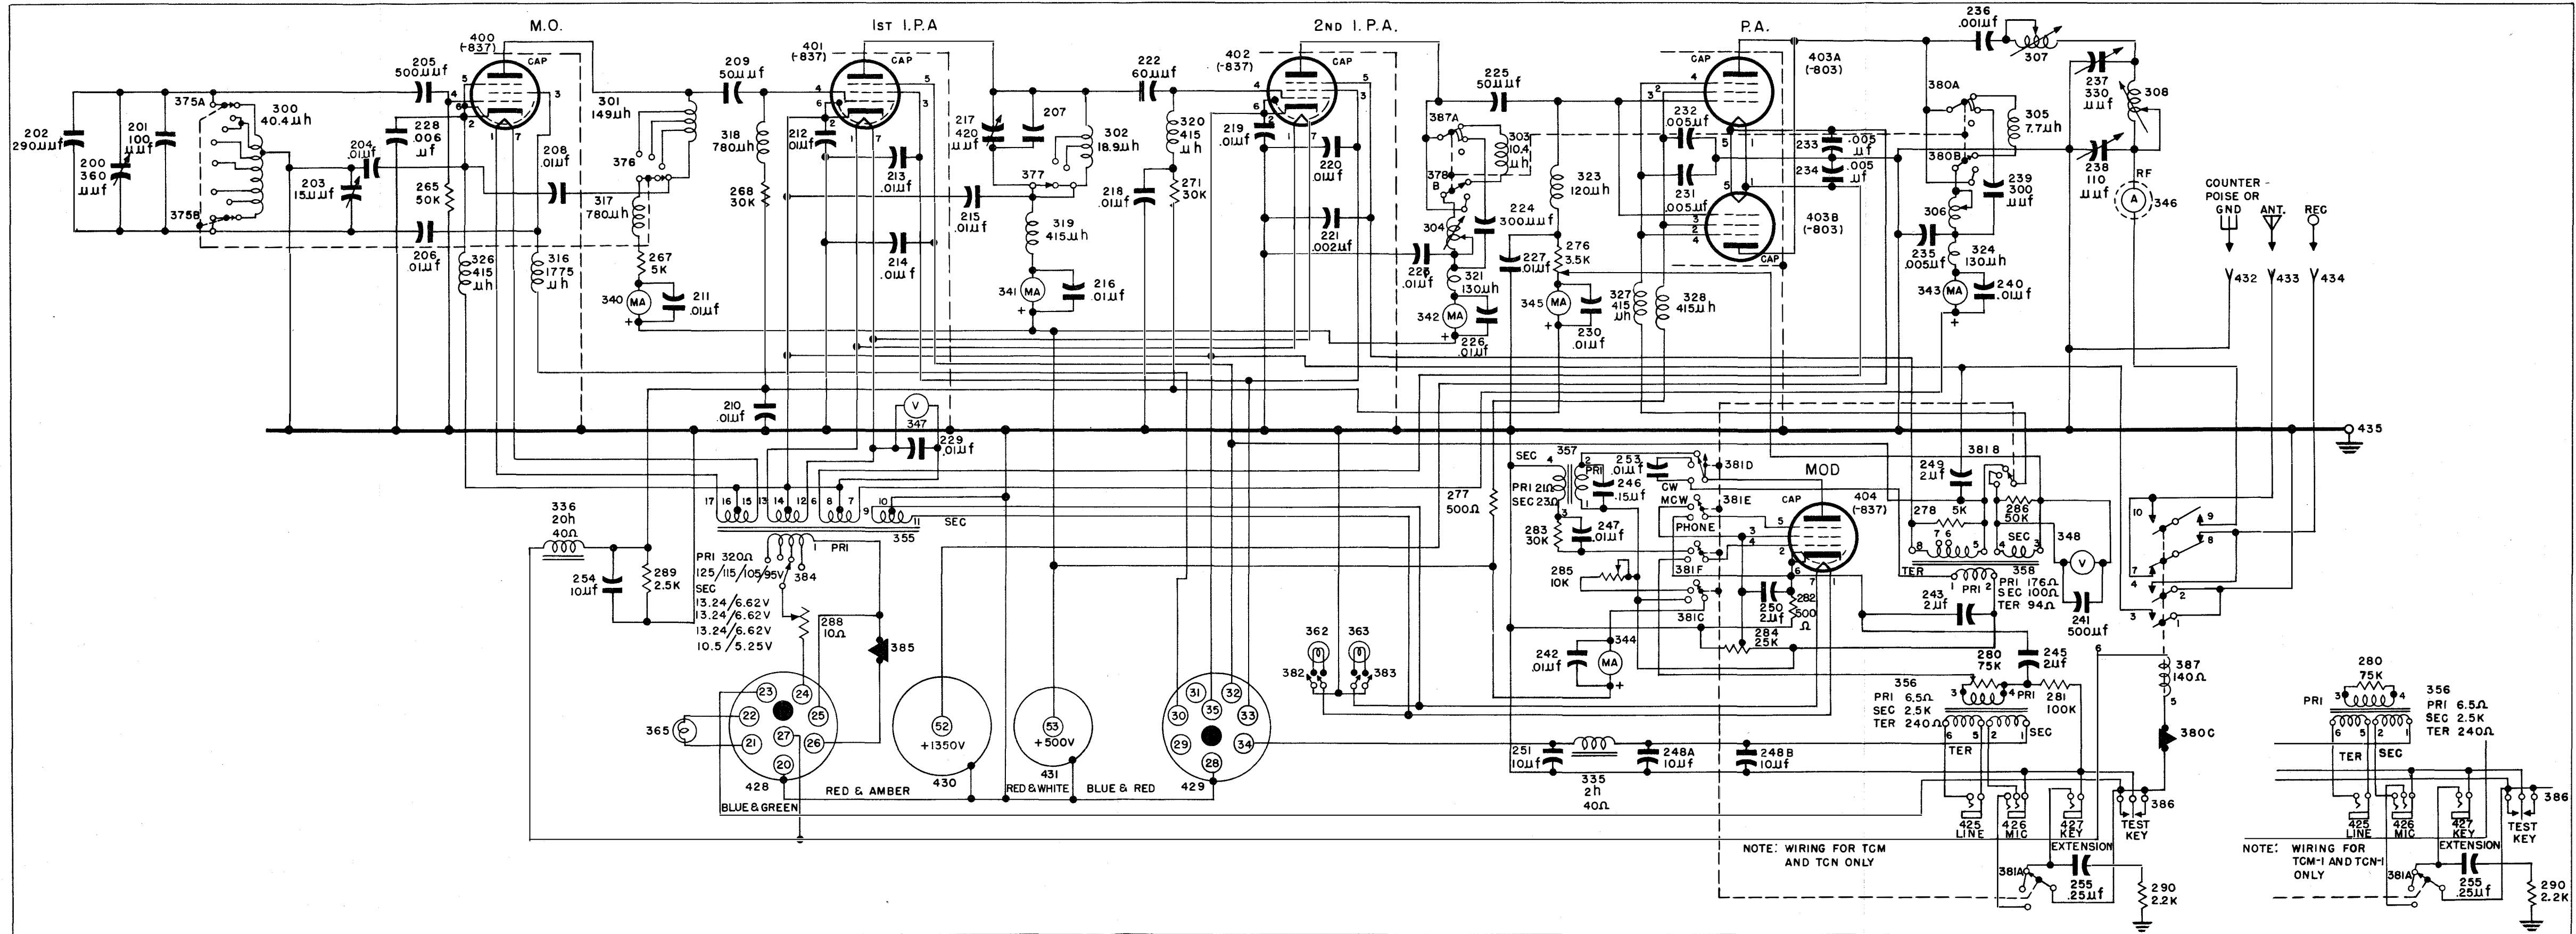

Figure 2-1. Schematic Diagram, H-f Radio Transmitter Navy Type CG-52206 (Navy Models TCM, TCM-1, TCN and TCN-1)
(See figures 2-1 to 2-4 inclusive.)
e. OUTPUT COUPLING CIRCUIT.—Because of the wide frequency range over which the radio transmitter operates, it is necessary to provide a coupling system which is very flexible. The system employed is capable of properly feeding the antenna over the entire frequency range. As shown in the schematic diagrams, figures 2-1 and 2-2, the full r-f voltage existing across the pa tank circuit is coupled to the antenna system across capacitor 236 and through variable inductor 307. The coupling capacitor (236) passes r-f voltages, but prevents the pa d-c plate voltage from entering the antenna circuit. The antenna driving voltage is the voltage which appears across capacitor 238. The antenna matching network is composed of inductors 307, 308 and variable capacitors 237 and 238. This system provides a means for delivering power to the antenna which may require either current or voltage feed. It is generally necessary to use current feed when operating slightly above or below the fundamental frequency of the antenna. This is accomplished by resonating capacitor 237 with inductor 308 which is set for maximum value. Under this condition inductor 307 acts as a coupling control. Adjustment of the coupling is achieved by varying inductor 307 and capacitor 237 while maintaining resonance for the current fed condition by means of inductor 308. For voltage feed, the antenna driving voltage is made high by series resonating capacitors 237 and 238 used with inductor 308. The greater the capacity ratio of capacitor 237 to capacitor 238, the higher will be the driving voltage.